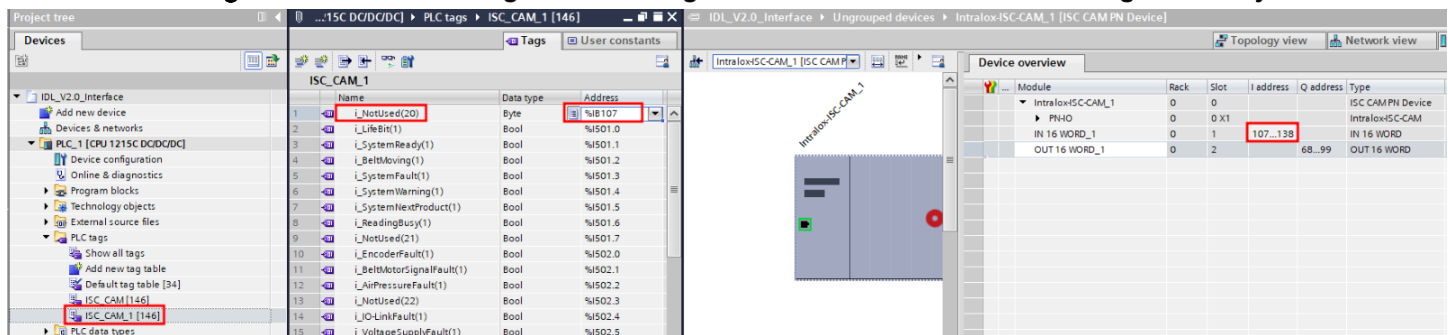

Figure 25: Updating Input ISC CAM PLC Tags for a Project
63. Make sure to follow previous steps for connecting the PLC tags to the appropriate I and Q address of the “Device overview,” Figure 25 & 26.